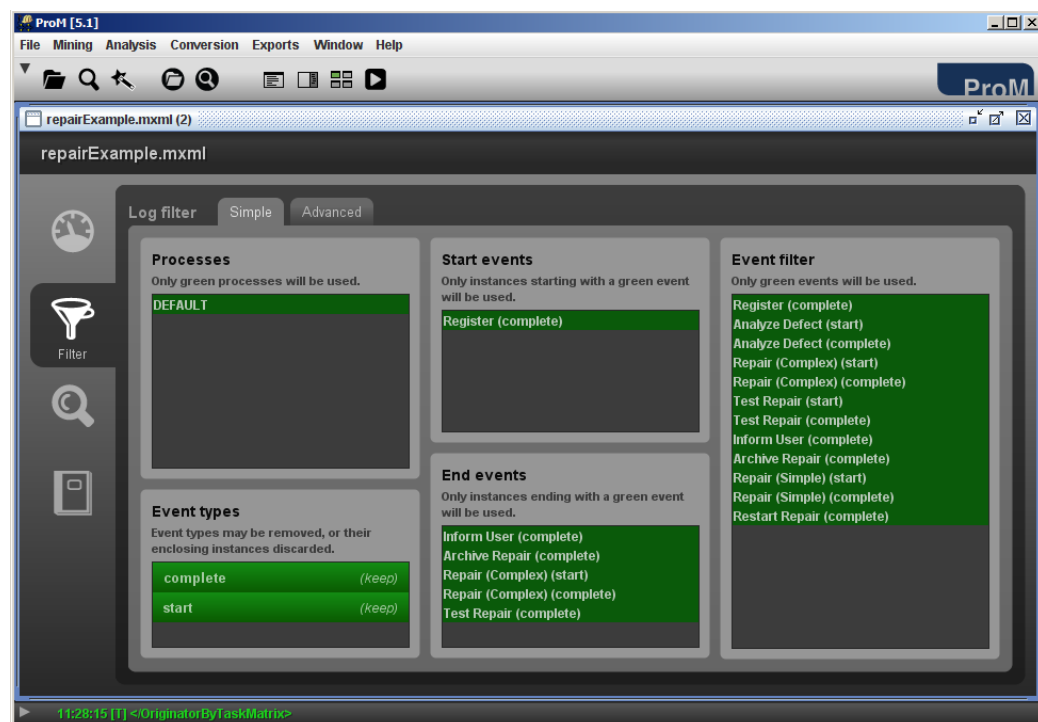

Figure 2.2: Screenshot of the ProM after the log of the running example (cf. Section 1.3) has been opened.
3. Open the log via clicking *File* → *Open MXML Log file*, and select your saved copy of the log file for the running example. Once your log is opened, you should get a screen like the one in Figure 2.2. Note that now more menu options are available.
Take your time to inspect this log with these two analysis plug-ins and find out more information about it. If you like, you can also inspect the *individual* cases by first clicking the tab *Inspector* (cf. third left tab on Figure 2.2), then clicking on the top tab *Preview*, and finally double-clicking on a specific process instance.
In ProM, a log can be filtered by applying the provided *Log Filters*. In Figure 2.2 you can see five log filters: *Processes*, *Event types*, *Start events*, *End events* and *Events*. The *Processes* log filter is used to select which processes should be taken into when running a process mining algorithm. Note that a log may contain one or more processes types. The *Event types* log filter allows us to select the type of events (or tasks or audit trail entries) that we want to consider while mining the log. For our running example, the log has tasks with two event types: *complete* and *start*. If you want to (i) keep all tasks of a certain event, you should select the option “keep” (as it
is in Figure 2.2), (ii) omit the tasks with a certain event type from a trace, select the option “remove”, and (iii) discard all traces with a certain event type, select the option “discard instance”. This last option may be useful when you have aborted cases etc. Options can be selected by clicking on an event type. The *Start events* filters the log so that only the traces (or cases) that start with the indicated tasks are kept. The *End Events* works in a similar way, but the filtering is done with respect to the final tasks in the log trace. The *Event filter* is used to set which events to keep in the log.
1. Include the event types selection as in Figure 2.2. I.e., “keep” all the *complete* and *start* event types;